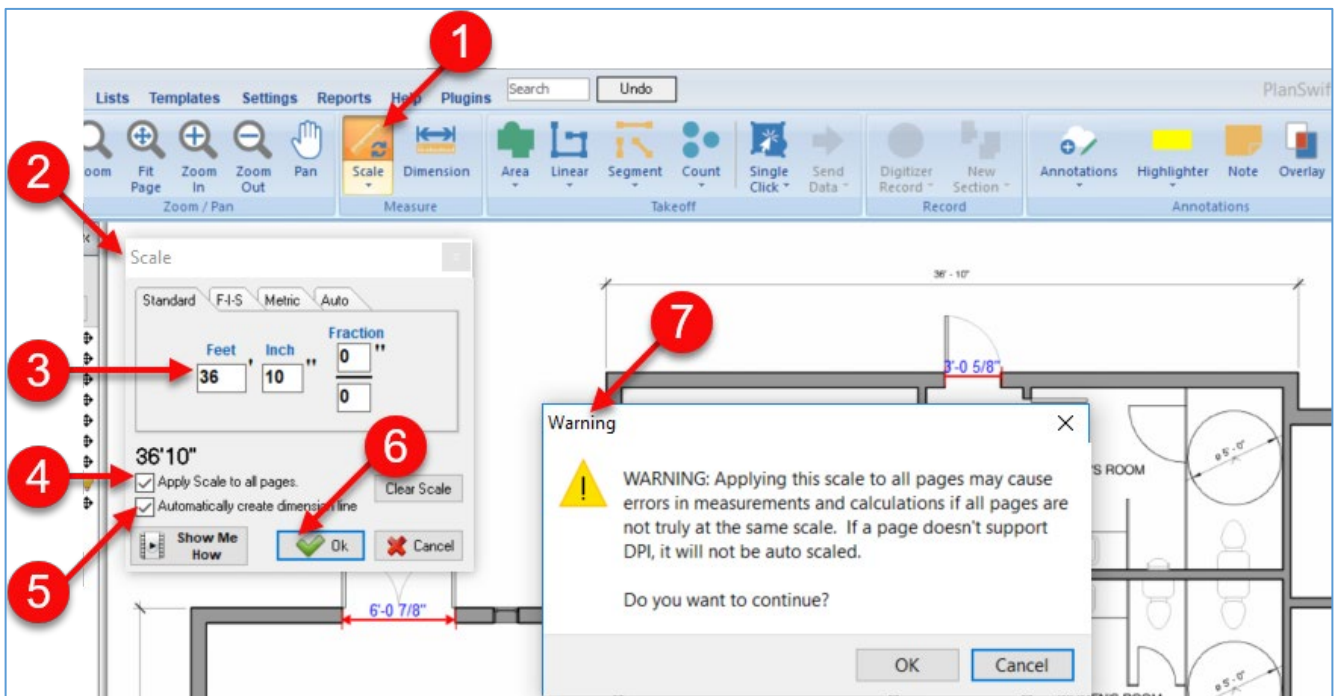

Figure 3-A
8. Click the first **Point** on the plan for the selected dimension. It may be helpful to press the **M** hotkey to magnify the image to place the **Point** more accurately (Fig. 3-B).